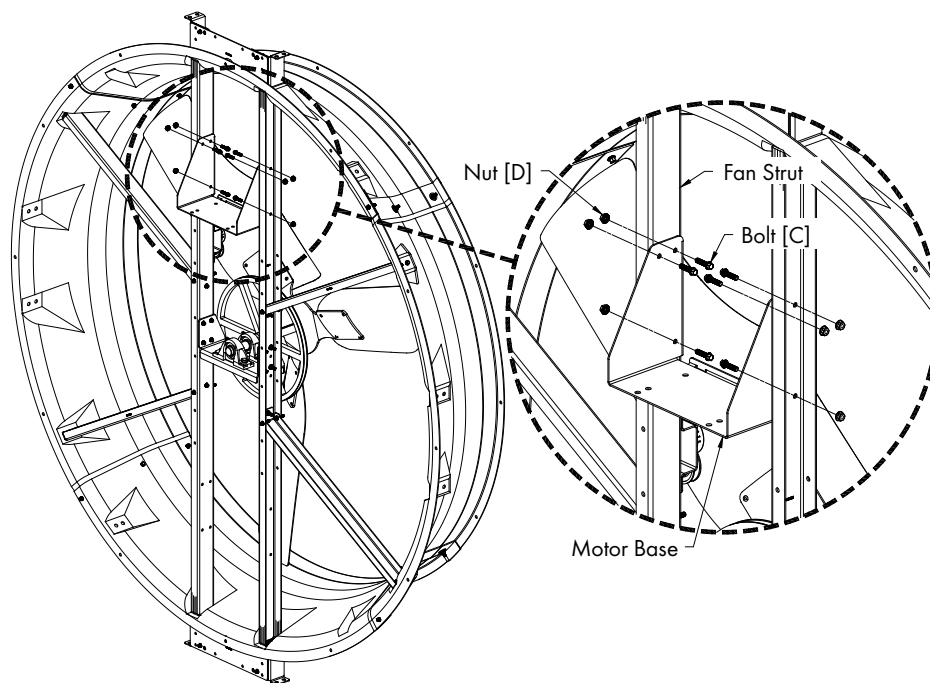

Figure 2
Install Motor Base between the main Fan Struts above the Bearings/Bearing Base and secure in place using (6) Bolts [C] and Nuts [D] and tighten to 18 ft.-lbs [24.5 N-m]. See Figure 2.